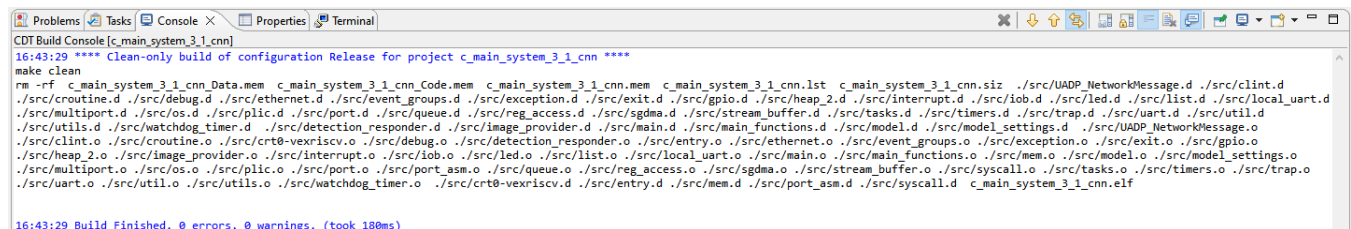

Figure C.23. Console
13. After selecting the option as shown in above fig. observe the console and wait for the process to complete to 100%. After completion, the message shown in Figure C.23 appears on the console.